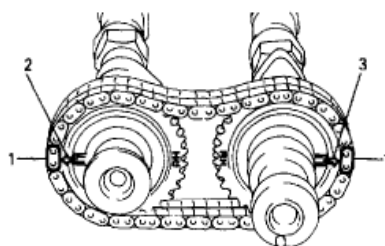

FIGURE 5.
5. Install timing chain with silver plates to matching RH camshaft sprocket timing marks as in Figure 5.